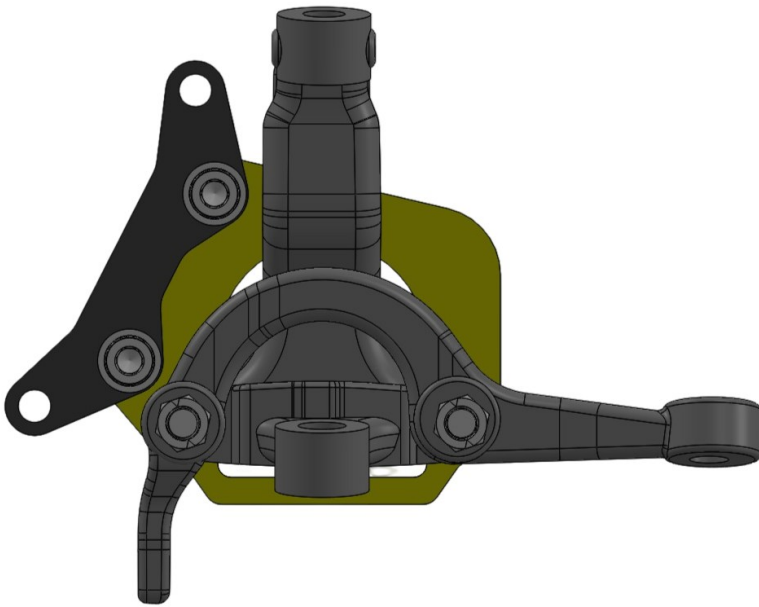
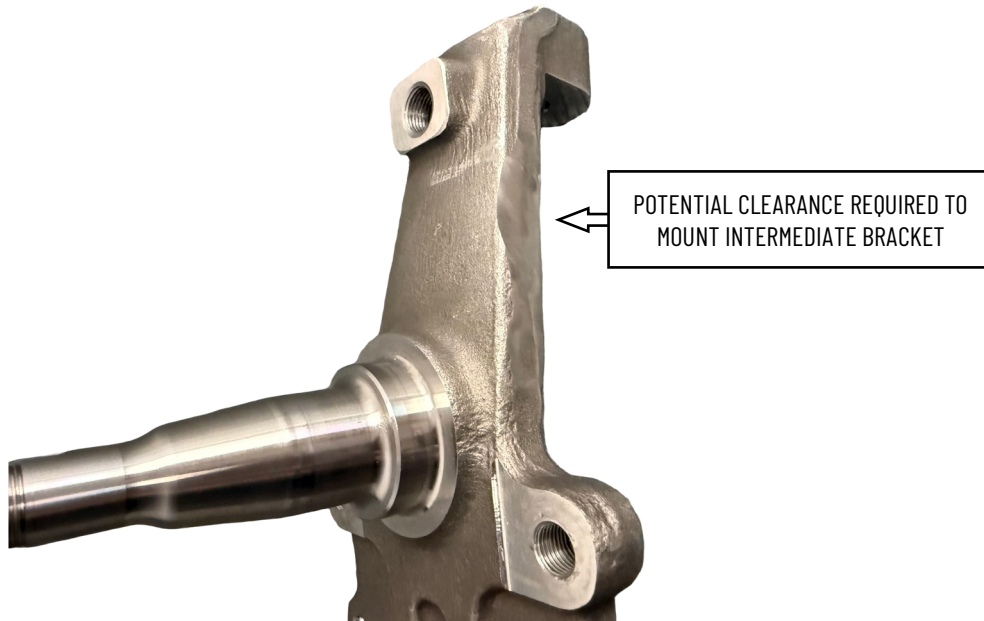

Figure 4. Intermediate bracket installed inboard view
Figure 6. POTENTIAL required clearance for G-Comp spindle
9. Install the intermediate bracket to the inboard side of the base bracket using the supplied 1/2-13 socket heads and washers. Simply tighten the bolts for now as they will likely require removal to shim the intermediate bracket during the shimming procedure. See Figures 4 and 5 below for reference. The intermediate bracket part numbers begin with either 661 for the left (driver side) or 662 for the right (passenger side) bracket. NOTE: Minimal clearance may be required near the upright of the spindle for customers using the Speedway G-Comp spindles. Please see Figure 6 below. This clearance can be achieved using a handheld grinder.